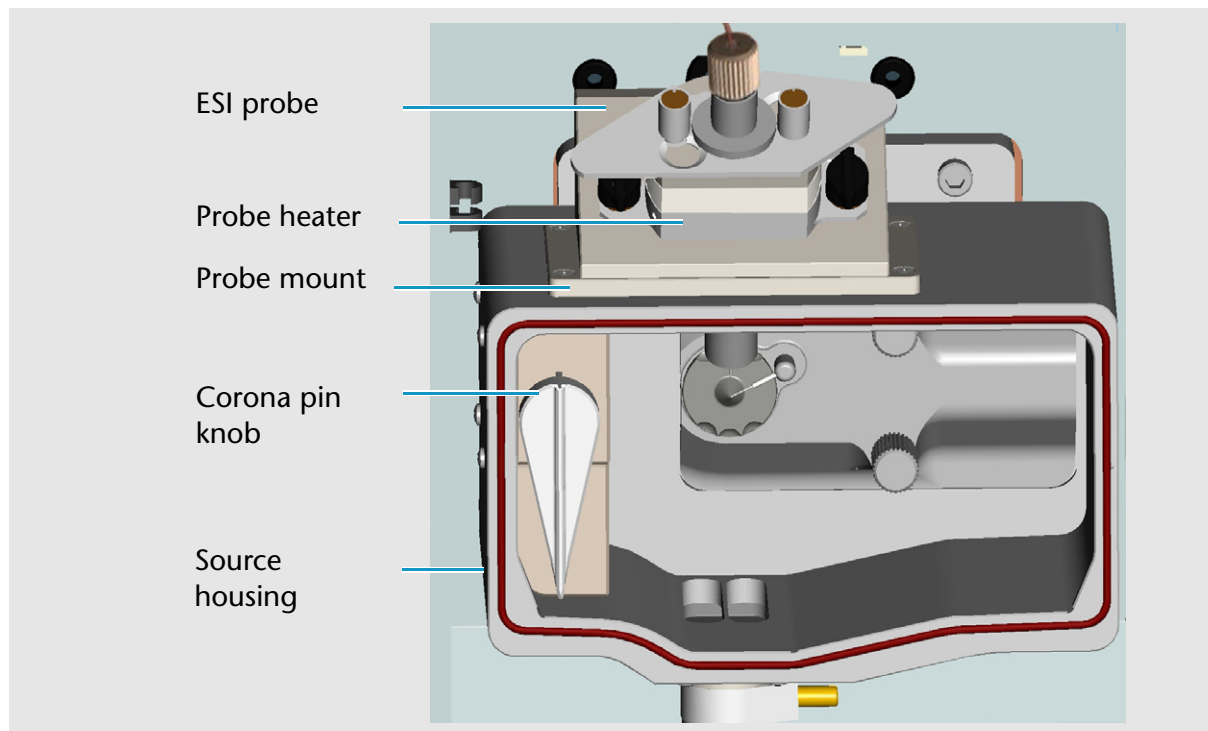

Fig. 32 MSQ Plus Mass Detector setup for ESI mode
8. Turn the locking plate on the ESI probe clockwise to the open position. Insert the ESI probe into the probe heater, as shown in Figure 32. Then, turn the locking plate counterclockwise to the closed position.
See Figure 32, which shows the MSQ Plus Mass Detector setup for the ESI mode.